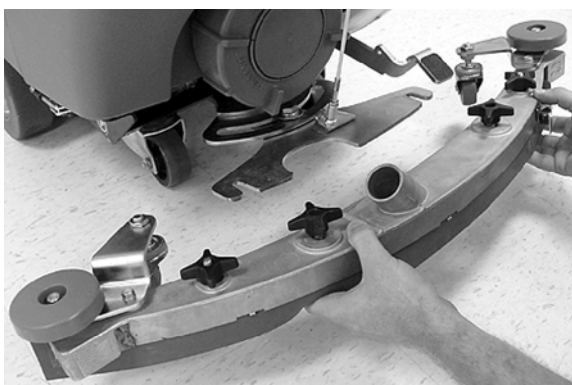

FIG. 4
3. Mount the squeegee assembly to the squeegee pivot bracket as shown (Figure 4). Make sure the knobs are completely seated into the slots before securing knobs.